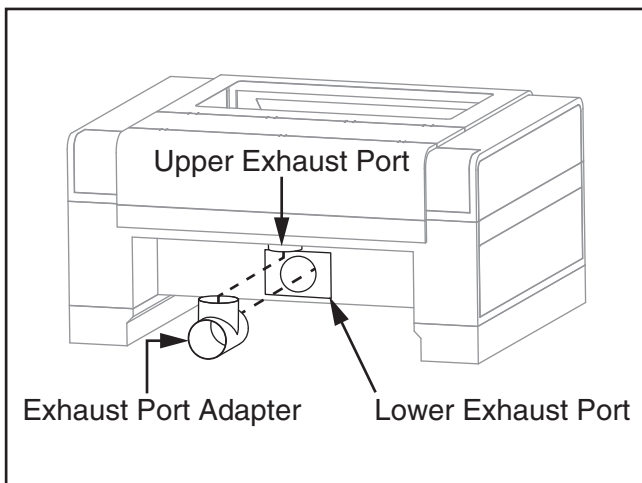

Figure 21. Installing exhaust port adapter.
1. **G0874 Only:** Insert exhaust port adapter into upper and lower exhaust ports on rear of machine and secure with (1) 6" hose clamp on upper exhaust port (see **Figure 21**).